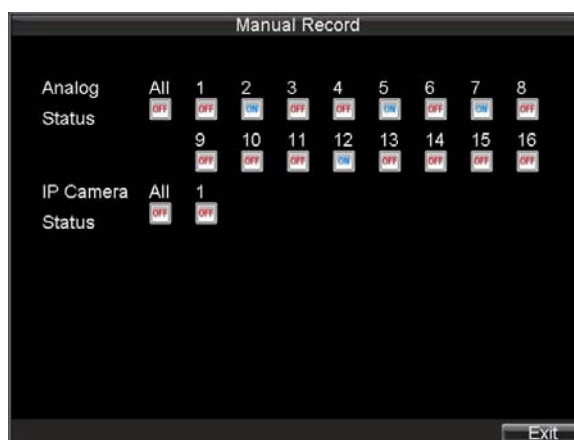

Figure 5. Manual Record Menu
1. Press the REC/SHOT button on the front panel or in the Main menu to bring up the Manual Record menu (shown in Figure 5).